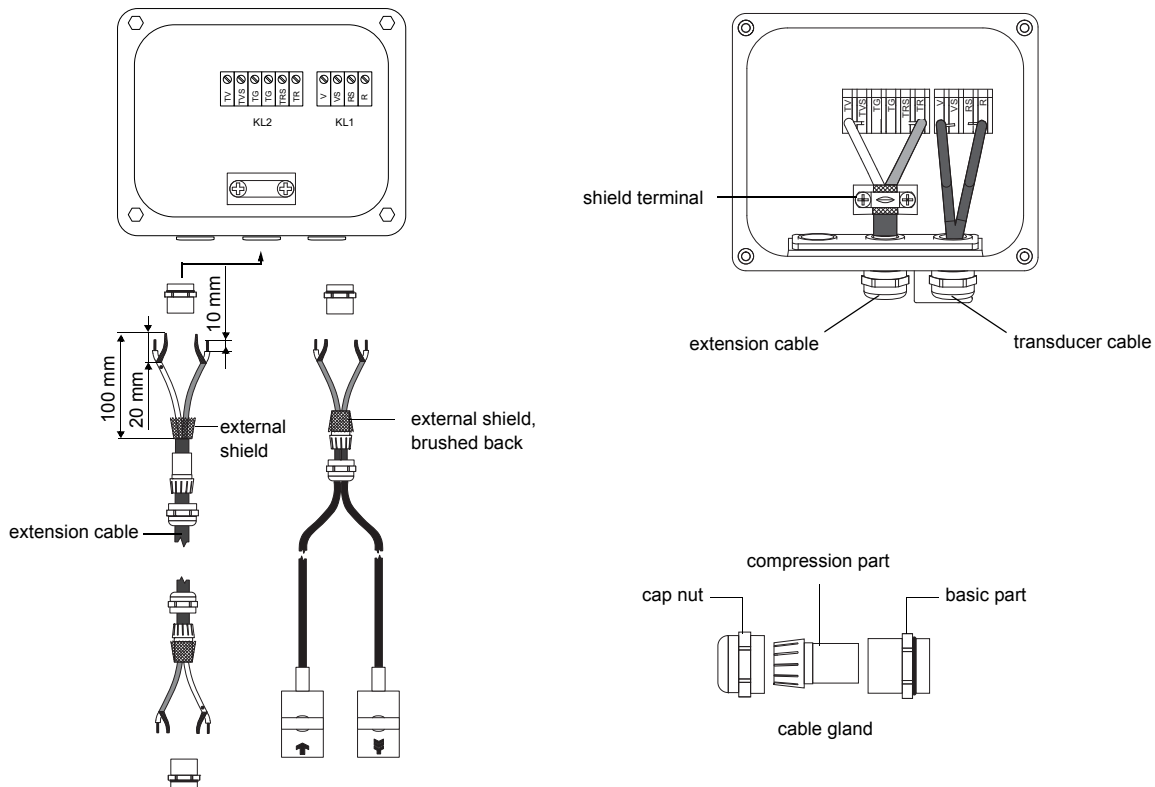

Fig. 6.8: Connection of the extension and transducer cable to the junction box JB01
- Remove the left blind plug for the connection of extension cable (see Fig. 6.8).
- Pull the extension cable back until the brushed back external shield is below the shield terminal (see Fig. 6.8). The extension cable has to remain completely insulated up to the shield terminal.
- Connect the extension cable to the terminals of the transmitter (see Fig. 6.8 and Tab. 6.4).
For the terminal assignment of the transducer cable see Fig. 6.8 and Tab. 6.5.